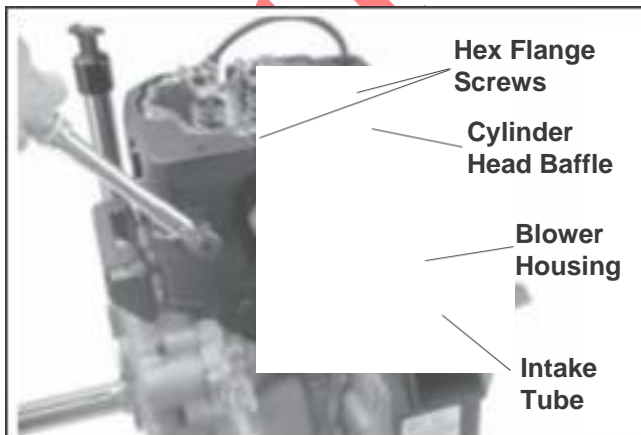

Figure 11-42. Installing Cylinder Head Baffle and Intake Tube.
3. Install the cylinder head baffle to the cylinder head using the hex flange screws. Torque the screws to 3.9 N·m (35 in. lb.). See Figure 11-42.